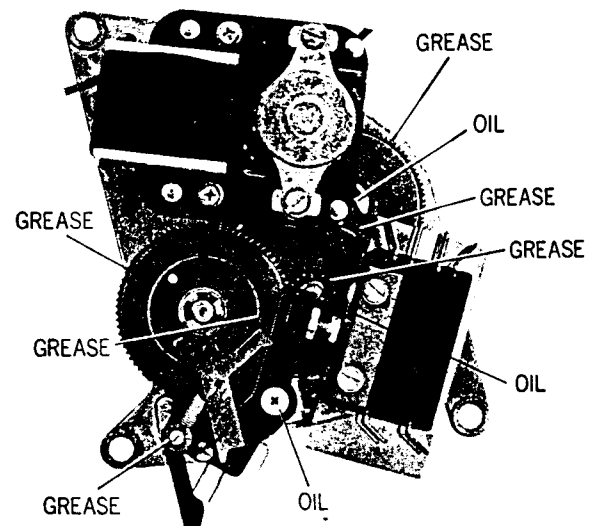

Figure 3. Series 7269 and 7680 Electric Reset Lubrication.
2. Figure 3 shows the points that must be lubricated in the power package. For lubrication of the computer refer to VR-101 Computer Service Manual. Apply oil or grease to all points indicated. Use Anderol L-795 Grease and Anderol 401-D Oil.